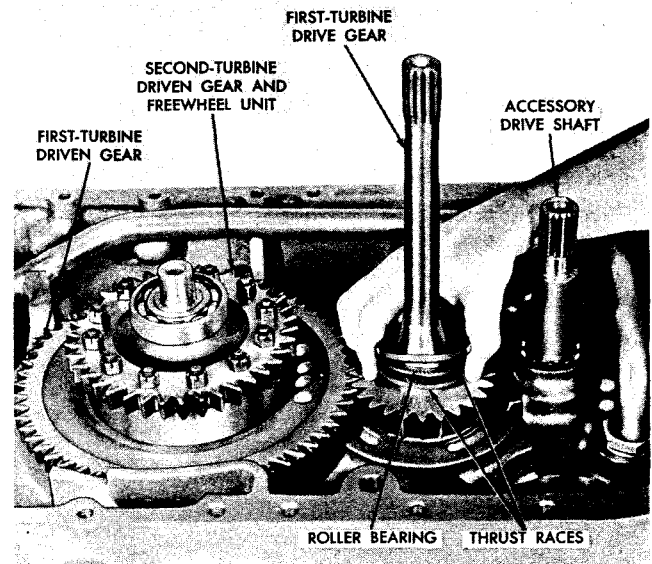

Fig. VII-6. Installing thrust race and bearing on first-turbine drive gear
(1) Position the transmission on the back side. Do not allow the transmission to rest on the rear-output shaft. Install the accessory drive shaft assembly and bearing (fig. VII-6).
(2) Install the first-turbine drive gear and seal ring (fig. VII-6).
(3) Install the roller bearing and two thrust races (fig. VII-6).
(5) Install the second-turbine driven gear, first-turbine driven gear and freewheel unit as an assembly (fig. VII-6).